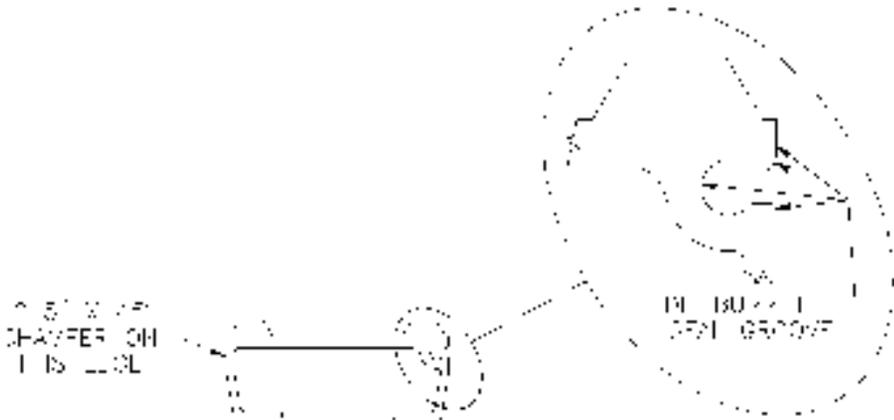

Figure 21
4. Attach drive-in wear bearing in slat/plank (Figure 21).
5. Install seals (Figures 21 to 33).
**b.** Inspect the ends of the floor slats. De-burr the seal groove. Chamfer the outside edge of the floor slat opposite the seal groove. De-burr and chamfer both ends of the floor slats (Figure 21).